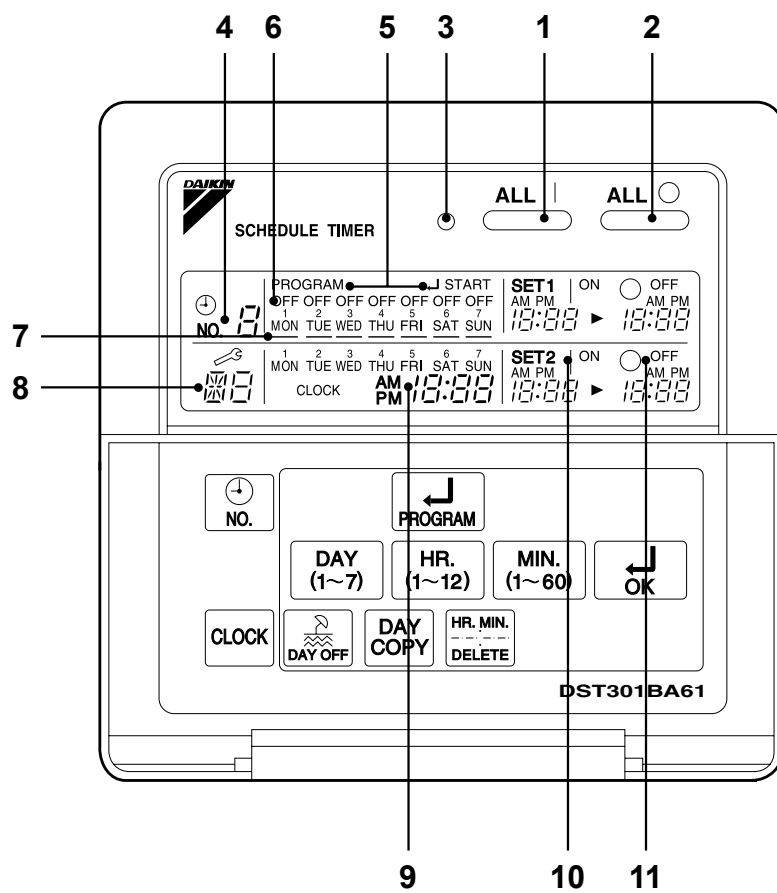

Fig. 1
18.1.3 Names and Functions of Operating Section (Fig. 1, 2)